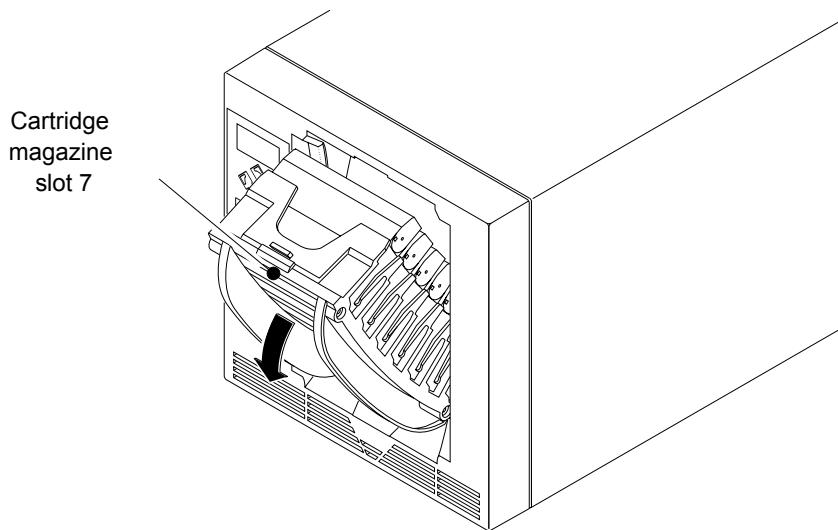

Figure 2-1 Removing the cartridge magazine
1. Remove the magazine by grasping it at the top (near cartridge slot 7) and pulling out, as shown in Figure 2-1.